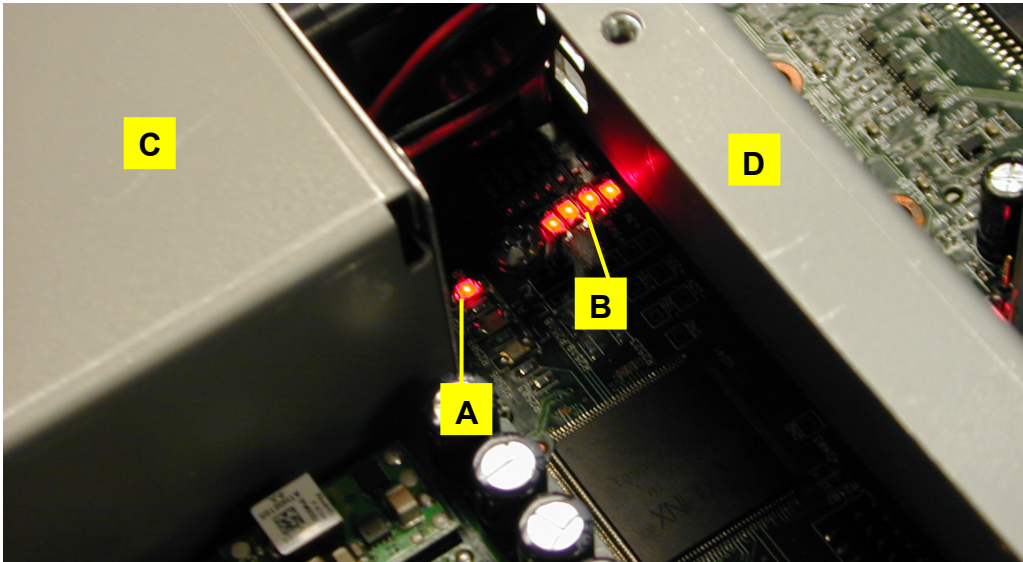

Figure 5 Power supply LED indicators on the BRIO Distribution module.
9. Inspect the LED power supply indicators (Figure 5) on the BRIO module located in between the Power Supply module (Point C) and the support frame (Point D). The LED indicator at Point A should be flashing at a slow rate. The LED indicators at Point B should be lighted and not flashing.